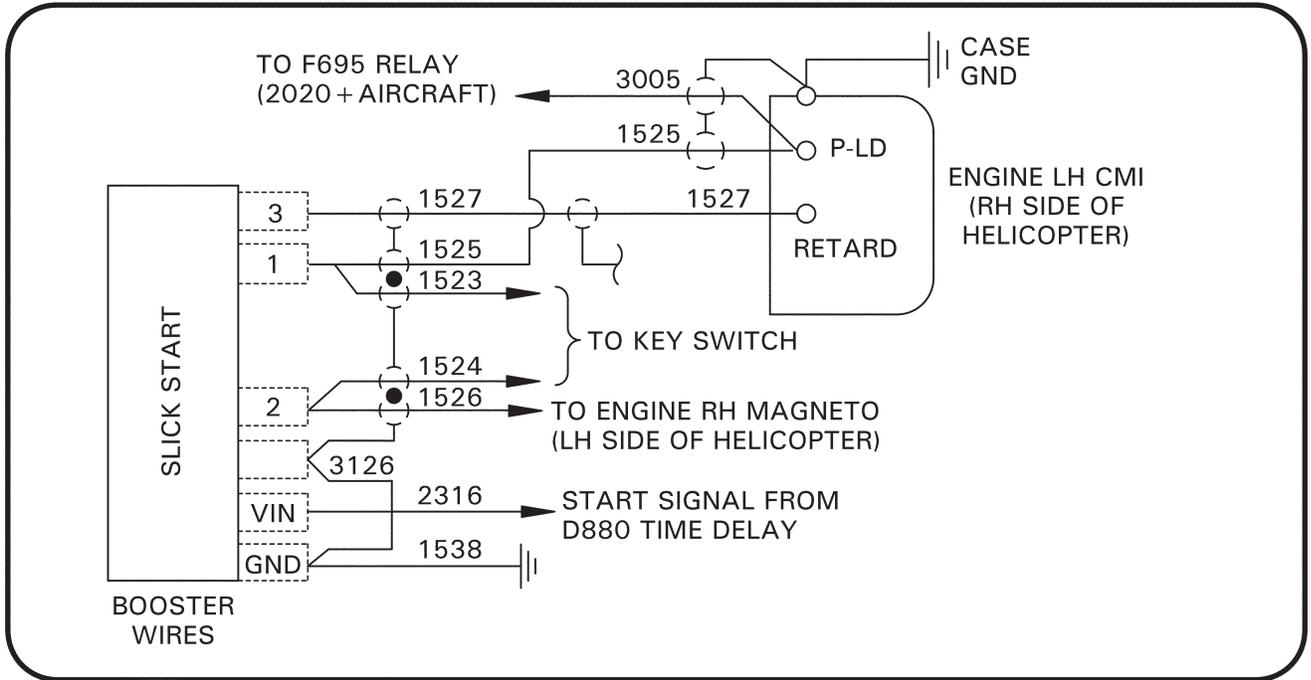

Figure 3A R44 II SS1002 SlickSTART® Schematic
6. Refer to Figures 3A or 3B (as applicable) and 5. Disconnect existing p-lead and shield drain wires from EIS unit.